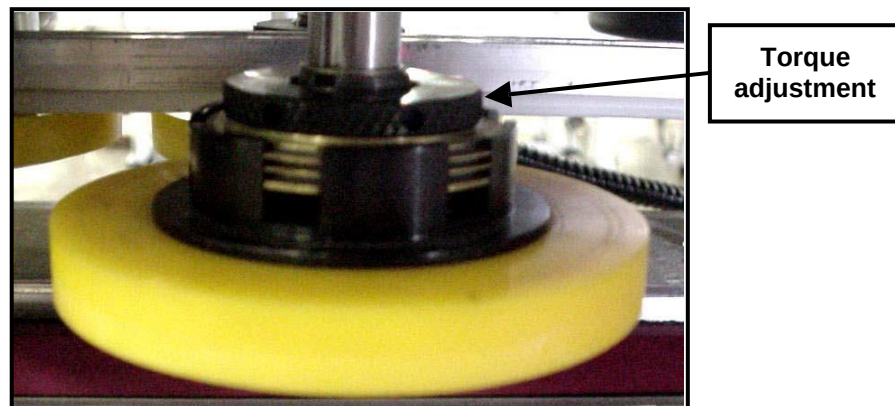

Figure 15. CLUTCH TORQUE NUT.
- 4d.** On the last set of spindles, (if equipped) set the clutch torque nut by turning it clockwise (CW) to tighten (plus torque) or counterclockwise (CCW) for less torque (minus torque). Refer to Figure 15.